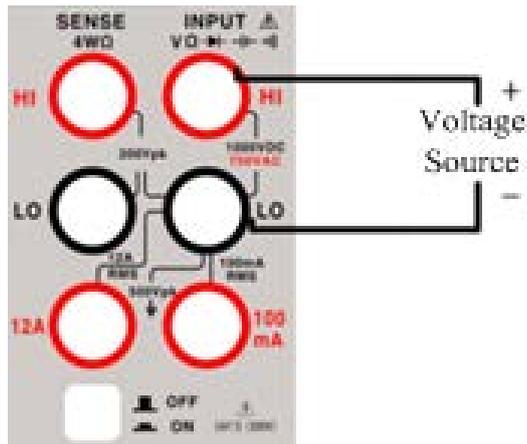

Figure 2.1.2 DCV terminal connection
2. According to Figure 2.1.2, connect the red and black test leads respectively to the proper input terminals.